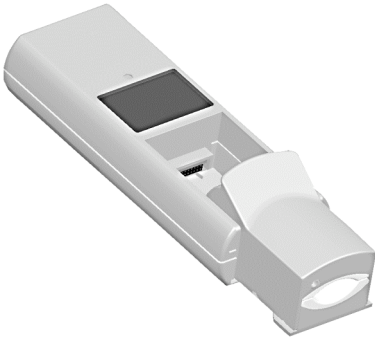

FIGURE 1
1. Set the Integral Finger Sensor or the Cable Adapter module into the pulse oximeter, pointing the Rear Connector of the module toward the Module Connector of the pulse oximeter (Figure 1).